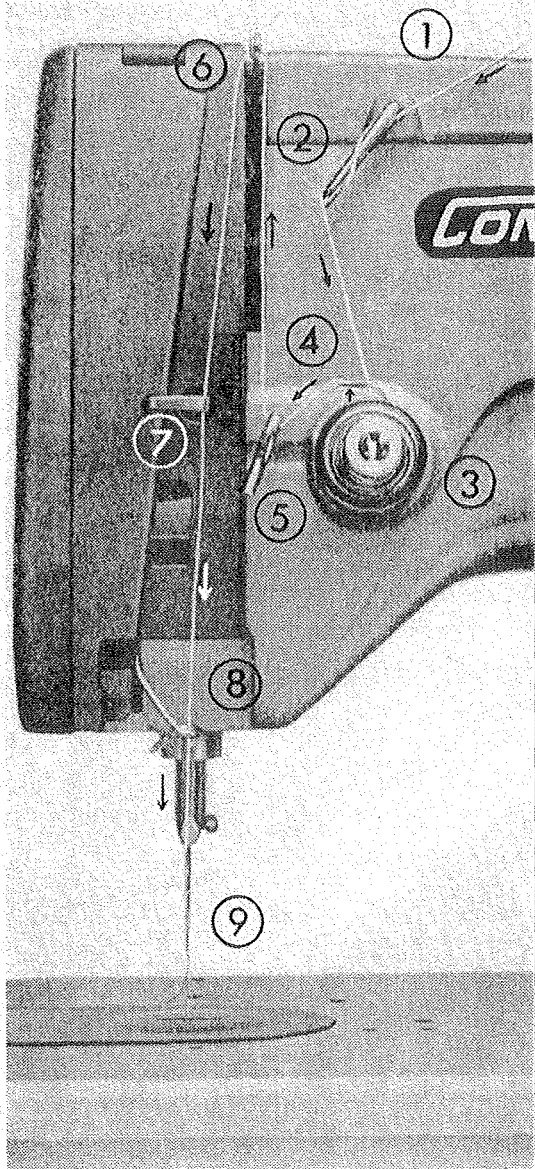

Fig. 8
To pass the needle thread, follow the numerical order as shown in Fig. 8. Start from the needle thread guide pin ①, (not shown in Fig. 8), to the needle ⑨ in order. (Refer to Fig. 2 for complete view)
- ② Three-hole thread eyelet
- ③ Tension disc
- ④ Take-up spring
- ⑤ Thread take-up guide
- ⑥ Thread take-up
- ⑦ Frame thread guide, upper
- ⑧ Frame thread guide, lower
- ⑨ Needle